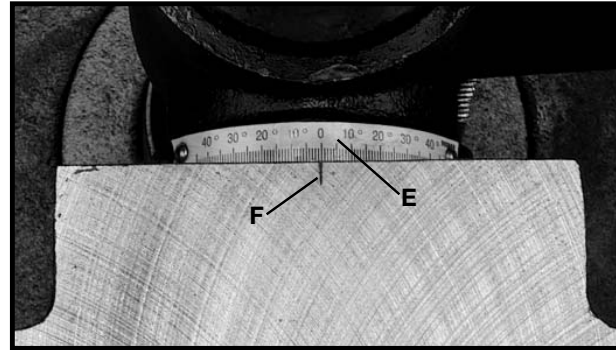

Fig. 24
5. A tilt scale (E) Fig. 24, is provided on the table bracket casting to indicate the degree of tilt. A witness line and zero mark (F) are also provided on the table to line up with the scale (E).